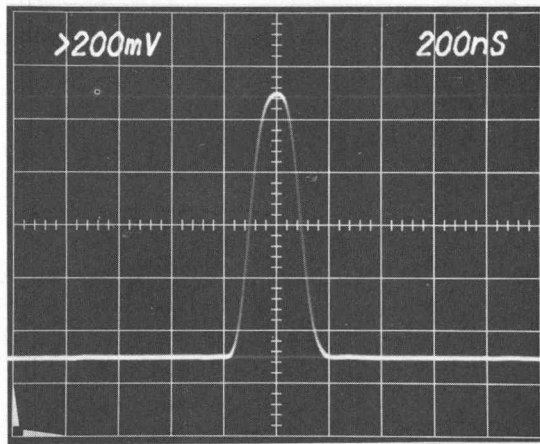

Fig. 6-27. Measuring Dot pulse Half-Amplitude Duration (HAD).
b. CHECK—the HAD (half amplitude duration) of the vertical line pulses for 200 ns \pm 30 ns. See Fig. 6-27.